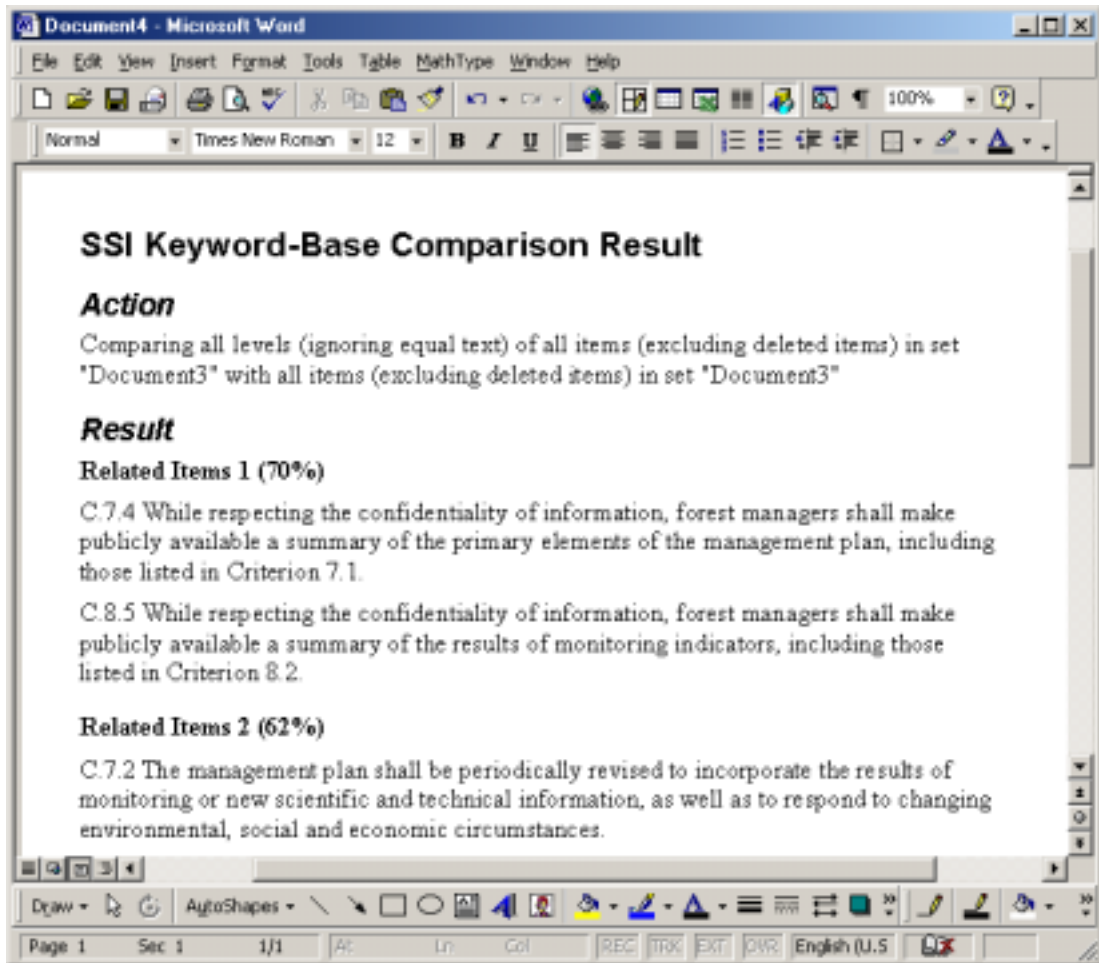

Figure 18. Keyword-base Comparison Result
5. Click "OK". The result example of comparison is shown in Figure 18.